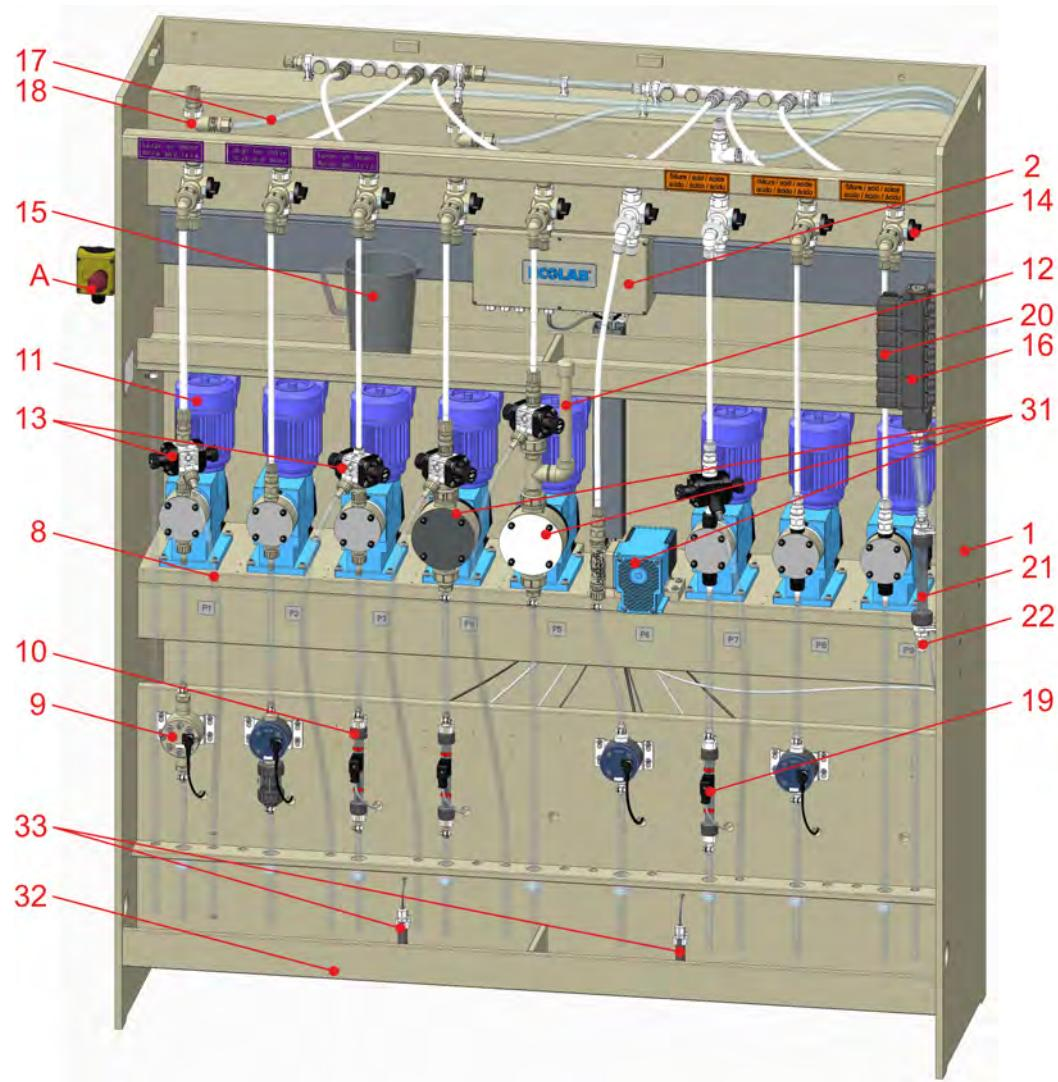

Fig. 4: Example: Setup
The control unit is connected to the integrated terminal box (Fig. 4, no. 2), as is the wiring for all integrated, electrical components (metering pumps, etc.).
Six metering pumps are pre-assembled on the stand as standard (Fig. 4, no. 1); three more pumps can optionally be retrofitted.
The metering line for container 1 is designed for the Emulsion product series as a factory standard (Fig. 4, item 3). The product is sucked in via a PP suction screen (Fig. 4, item 7), with integrated suction screen (Fig. 4, item 4), non-return valve (Fig. 4, item 6) and empty signal float (Fig. 4, item 5), with the metering pump EMP III 54 l/h in EPDM version (Fig. 4, item 11).
An oval gear meter can be installed on the suction side to automatically monitor the flow rate (Fig. 4, no. 9), or a variable-area flowmeter (Fig. 4, no. 10) with a sending unit (Fig. 4, no. 19). Both measurement devices are optionally available. The suction lance is connected to the pump by a Tygon hose of the dimension 9.5/15.9.
A pressure relief valve (Fig. 4, item 13) can be installed on the pump; it opens if the metering pipe is blocked, and discharges the escaping product into the collecting tray. For this purpose, the collecting tray is divided into 2 areas (alkaline / acidic) and protected by a leak float (Fig. 4, item 33).
A 3-way valve is located on the discharge outlet of the metering pump (Fig. 4, item. 14); it is connected by means of a PEX pipe 12/16. This allows for sample taking into a measuring vessel (Fig. 4, no. 15), thus providing a calibration option for the metering volume with the MyControl unit.
For safety reasons, a flush cycle with water follows metering. To allow this to happen, fresh water must be connected to the water connection (Fig. 4, item 22); flushing occurs on opening the flushing valve (Fig. 4, item 20).
Non-return valves integrated into the line make sure that the product cannot enter the fresh water line. Flushing can be visually checked by observing the variable-area flowmeter (Fig. 4, item 21).
An integrated flow rate sender (Fig. 4, item 19) is already installed in the facility for monitoring by the control unit.
The metering lines for container 2 (Fig. 4, item 23) and 3 (Fig. 4, item 24) are designed for alkaline media with a normal viscosity. EPDM is used as the sealing material for this reason. Unlike for the highly viscous Turbo emulsion medium (metering line 1), PEX metering tubes in the dimension 8/12 can be used for these containers. The suction hose is again a Tygon hose in the dimension 9.5/15.9. The metering pump and optional measuring devices are identical to metering line 1.
There is a means of installing a pressure relief valve (Fig. 4, no. 13) which limits the line pressure to a preset value and discharges the excess product volume via the return connection (Fig. 4, no. 8) into the sump or back into the container.
The metering components at these positions (Fig. 4, items 25, 26, 27) are not pre-assembled and can be freely configured.
In addition, there is the option, when using an 80 or 120 l/h pump, to install a pulsation damper (Fig. 4, item 12) to reduce any pressure pulsation. The suction lances can be connected to the pumps by means of Tygon hoses of dimension 9.5 / 15.9 or optionally 15.9 / 22.3 (in the case of high-viscosity media).